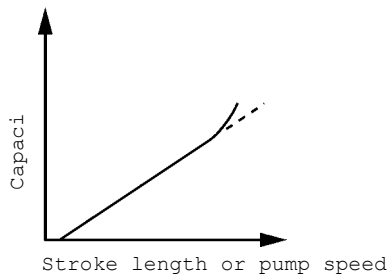

Fig.4-4 Capacity graph
(2) The discharge capacity increased as shown in Fig. 4-4.